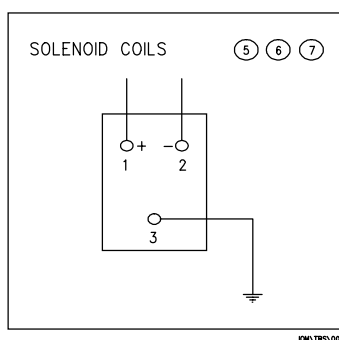

Fig 3
1.2 Connect the air and electrical supply to the solenoid valve as shown in figure 3.